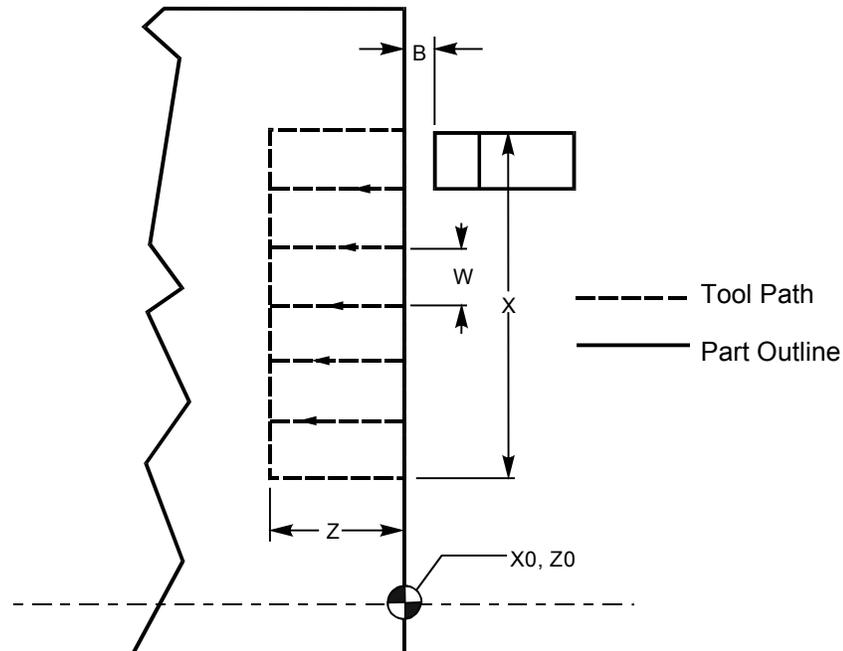

Figure 5-12, G82 Address Words
Refer to **Figure 5-12**. The G82 canned cycle creates a groove along the radial (X) axis. Use a groove-cutting tool for this cycle. The cycle has built-in compensation for tool width. Position the tool appropriately before the cycle begins.